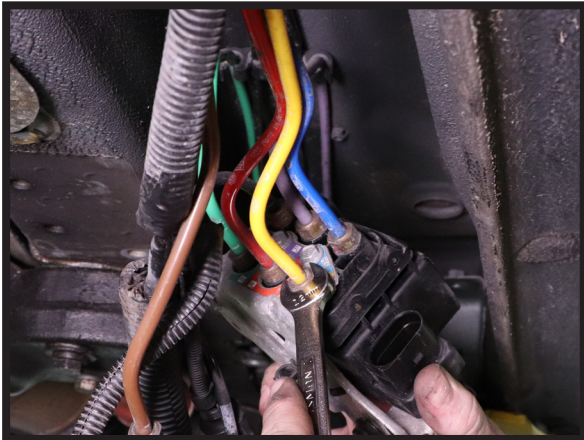

FIGURE 11
6. DISCONNECT THE AIR LINES AND REMOVE THE VALVE BLOCK FROM VEHICLE. (FIGURES 11, 12)